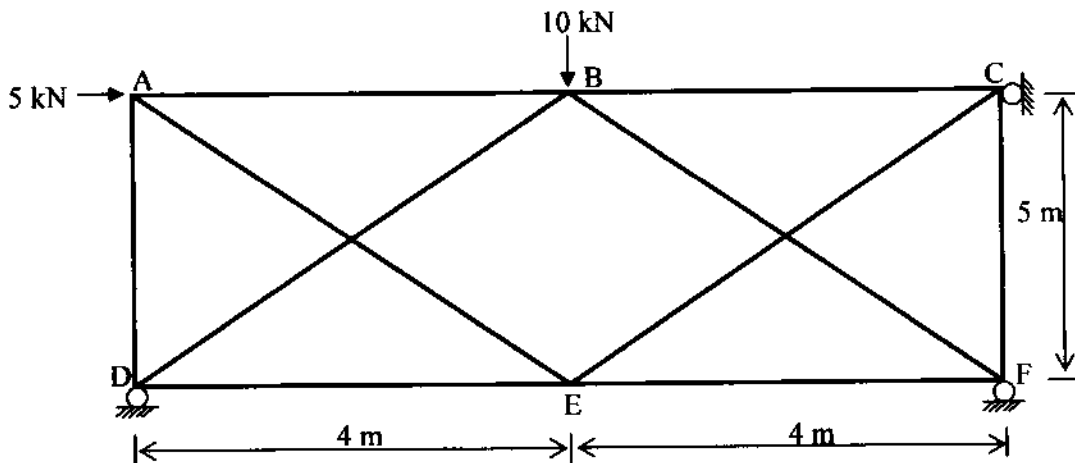

FIGURE Q2
Q2 A truss as shown in Figure Q2 is supported with roller at C, D and F, and subjected to point load at A and B. The modulus of elasticity (E) and cross-section area of each member are given in Table Q2. If the member BF are assuming redundant,